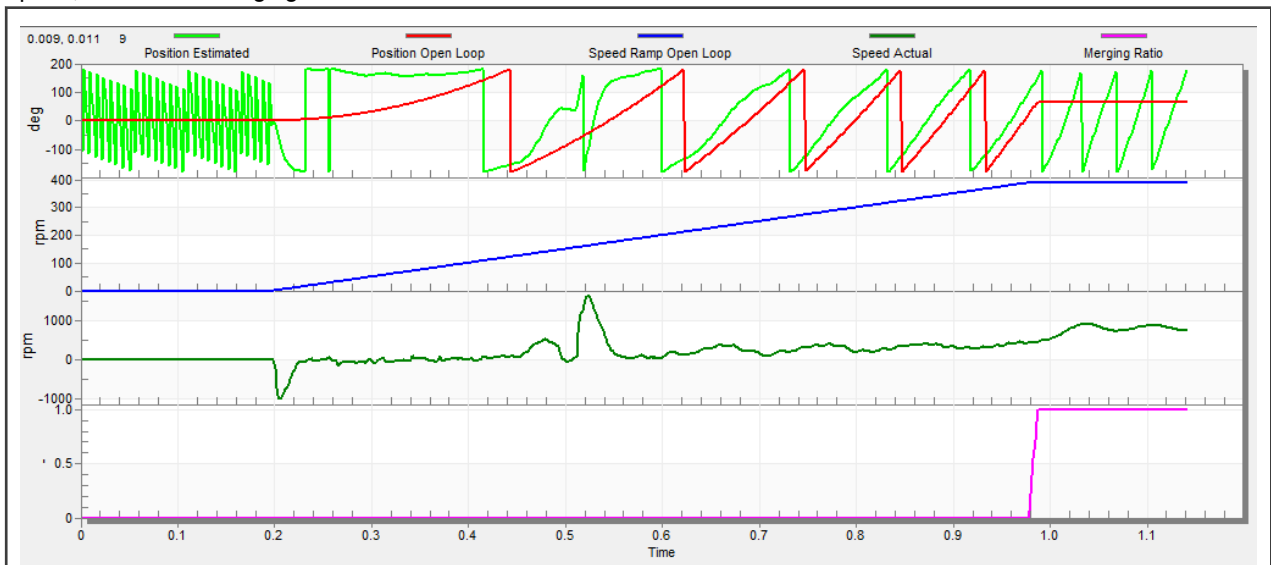

Figure 32. Motor startup
1. The start-up process can be tuned by a set of parameters located in the "Sensorless" tab. Two of them (ramp increment and current) are accessible in both tuning modes. The start-up tuning can be processed in all control modes besides the scalar control. Setting the optimal values results in a proper motor startup. An example start-up state of low-dynamic drives (fans, pumps) is shown in Figure 32.